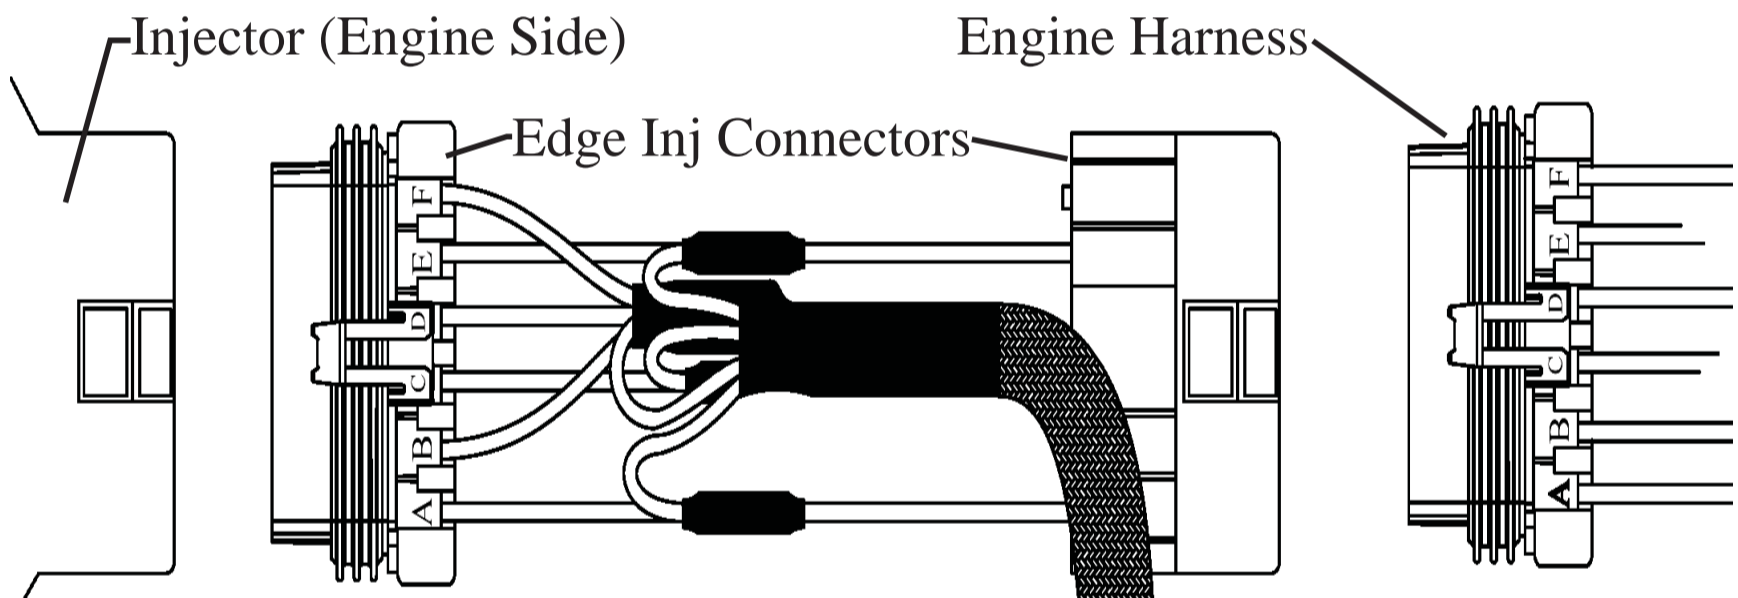

Figure 5 - Injectors
2. Remove vehicle Injector Connectors and connect the Edge Harness Injector connector "T" in between the vehicle harness and the sensor itself. (Figure 5)